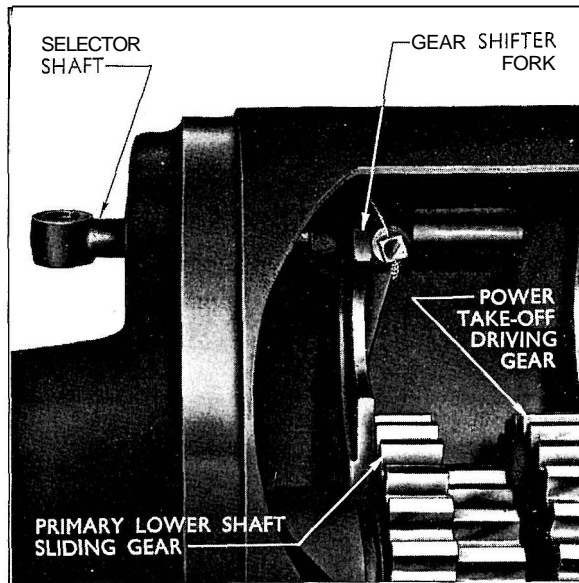

Fig. 36
7. Move the primary lower shaft sliding gear and shifter fork to the tapped hole in the fork into line with the countersunk hole in the selector shaft, fit the shifter fork securing screw, tighten and lock with wire (see Fig. 36).